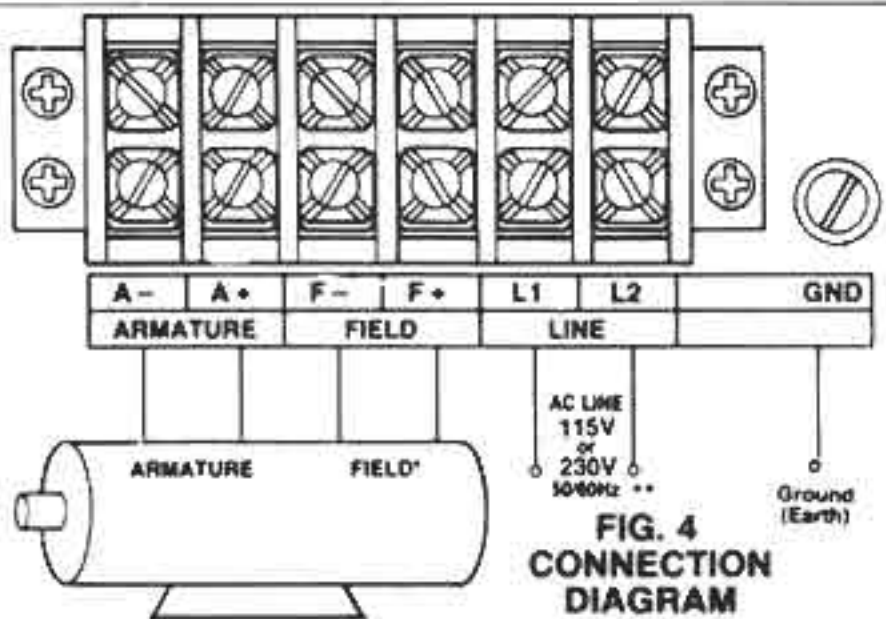

FIG. 4 CONNECTION DIAGRAM
- (1) Slide open front cover by removing two 6-32 screws.
- (2) Install Plug-In Horsepower Resistor[®] corresponding to motor voltage and horsepower. (See chart Table 3, page 3)
- (3) Set the Dual Voltage Switch to proper position "115" or "230" which corresponds to the nominal AC input line voltage 120 or 240 VAC.
- (4) Install proper Armature fuse according to Fuse Selection Chart. (Table 6, page 8)
- (5) Trimpots have been factory adjusted. If readjustment is required see section IV pages 9 & 10.
- (6) Install Auxiliary Heatsink if motor is larger than 3/4 HP on 120 VAC and 1-1/2 HP on 240 VAC. (Use (6) No. 10-32 screws)
C. Wiring. (See Fig. 4 for terminal arrangement and wiring information.)
- (1) Connect the Multi-Drive[®] to a standard 120 V or 240 V 50/60 Hz power source. [Be sure the DVS is set to the proper voltage "115" or "230" and motor voltage corresponds to the line voltage. (e.g. 90-130 VDC motor on 115-120 VAC and 180 VDC motor 230-240 VAC)]
- (2) Follow the recommended supply wire sizes as per Table 5. (For Stepdown operation see note on page 8.)
- (3) Follow the NEC and other appropriate electrical codes. **CAUTION:** Separate branch protection must be provided on 240 V circuits.
- (4) Replace front cover and the two 6-32 screws.